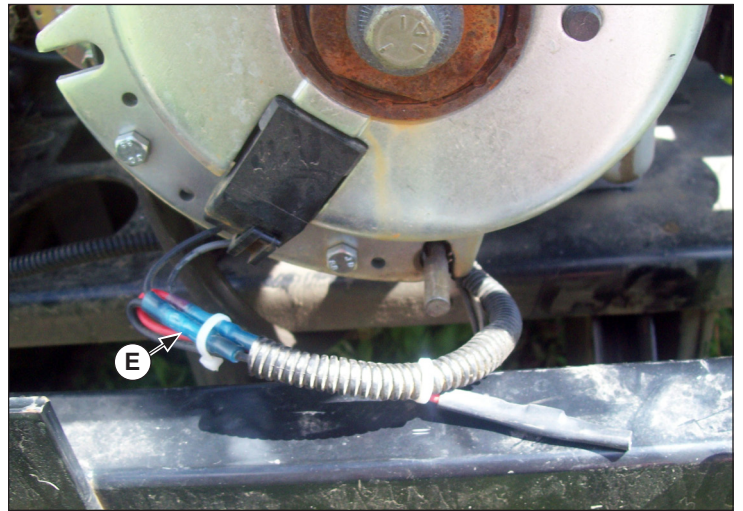

Figure 5. Clutch Clamping Diode on Equipment.
4. Inspect the electric clutch power leads for the presence of a clutch clamping diode (E). See Figure 5. If a clamping diode is not present from the manufacturer of the equipment, order and install Kohler clamping diode kit 25 755 40-S (available separately from your Kohler source of supply). Installation instructions are included with the kit.